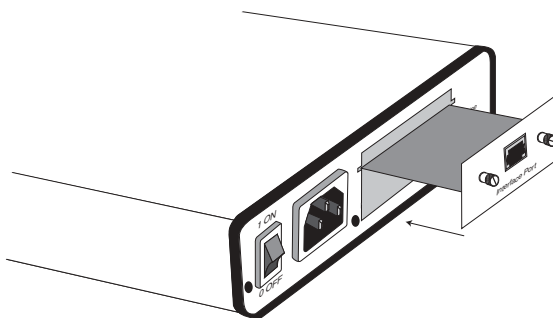

Figure 4. Installation of Model IM 1/I Plug-in Serial Interface Module
- 3) While keeping the module's faceplate parallel with the base unit rear panel, slide the module straight in—so that the card edge contacts line up with the socket inside the chassis. Figure 4 (below) shows how a Quick Connect Module plugs into the rear of the base unit.